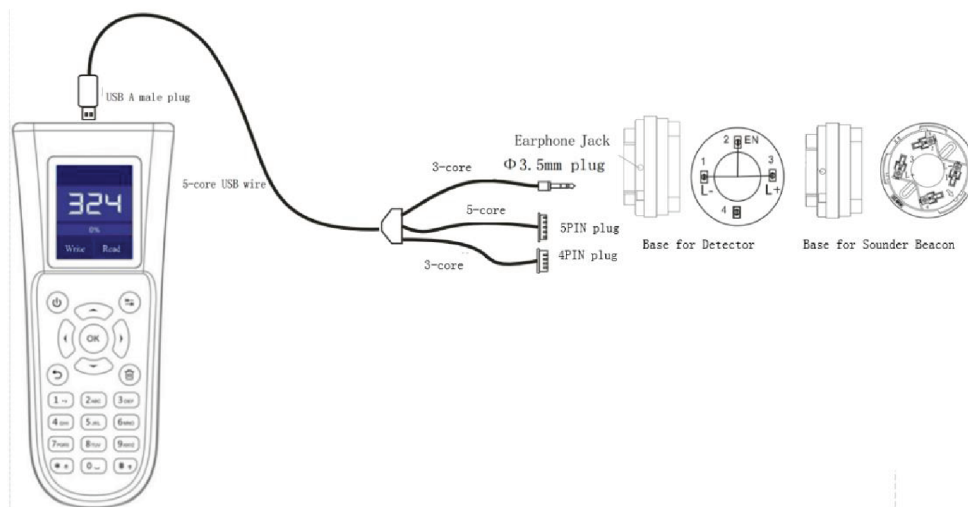

Figure 4-2
- (1) Insert the $\Phi 3.5\text{mm}$ earphone plug into the earphone jack of the address writer's detector base, it can be operated for reading and writing the address of the smoke detector, heat detector and sounder beacon. See figure 4-2: